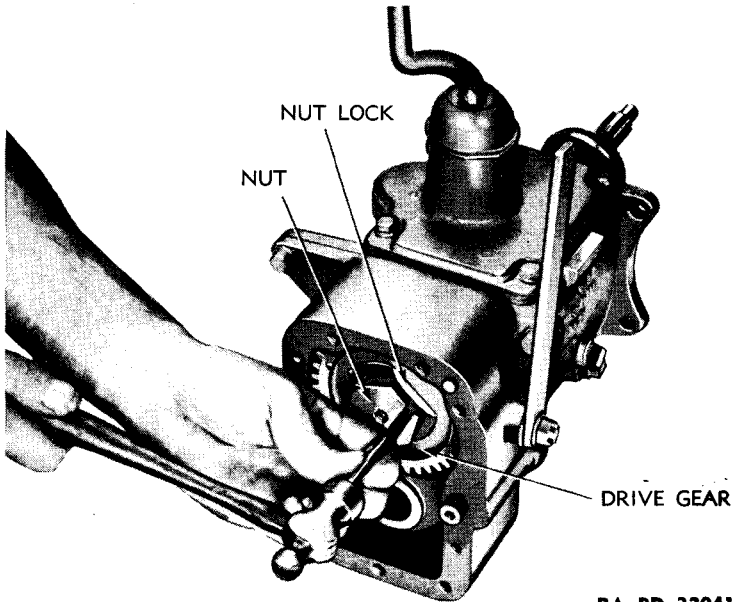

Figure 7 — Auxiliary Cover Removed
b. Remove Drive Gear. Straighten nut lock from nut on drive gear (fig. 7). Remove large nut by turning counterclockwise. A soft rod between gear teeth will prevent gear from turning while loosening nut. Nut lock will come off with nut. Remove drive gear.